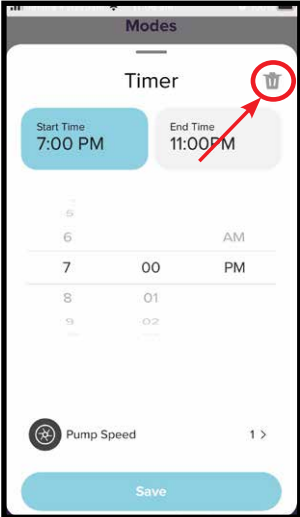

Figure 9.35
- Once a specific timer has been chosen, push the trash can logo on the right of the screen (refer Figure 9.35).